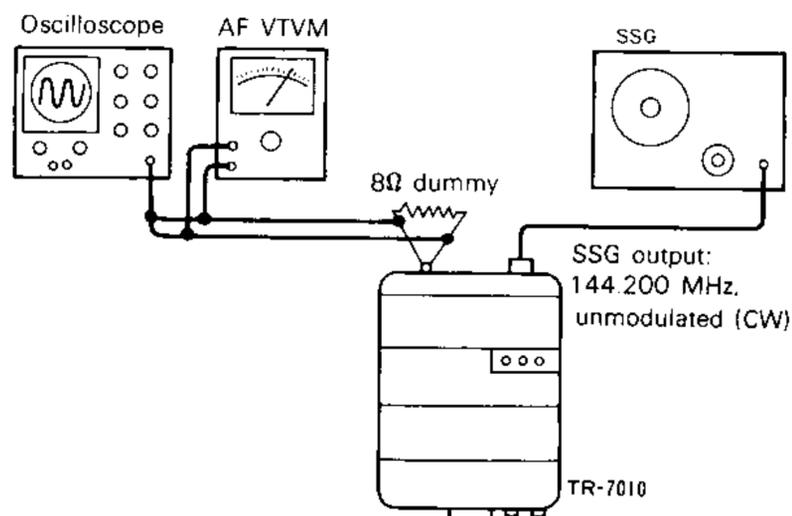

FIG. 16 RECEIVE SENSITIVITY ADJUSTMENT
- Connect the measuring instruments as shown in Fig. 16.